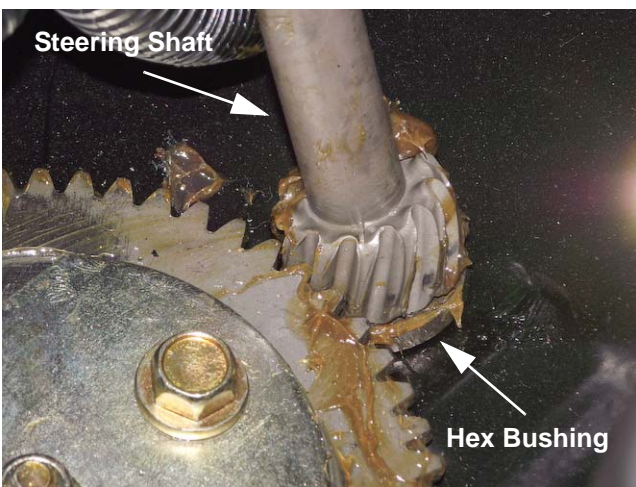

Figure 3.14
6. Raise the steering shaft slightly to allow removal of the hex bushing that centers it in the frame. See Figure 3.14.